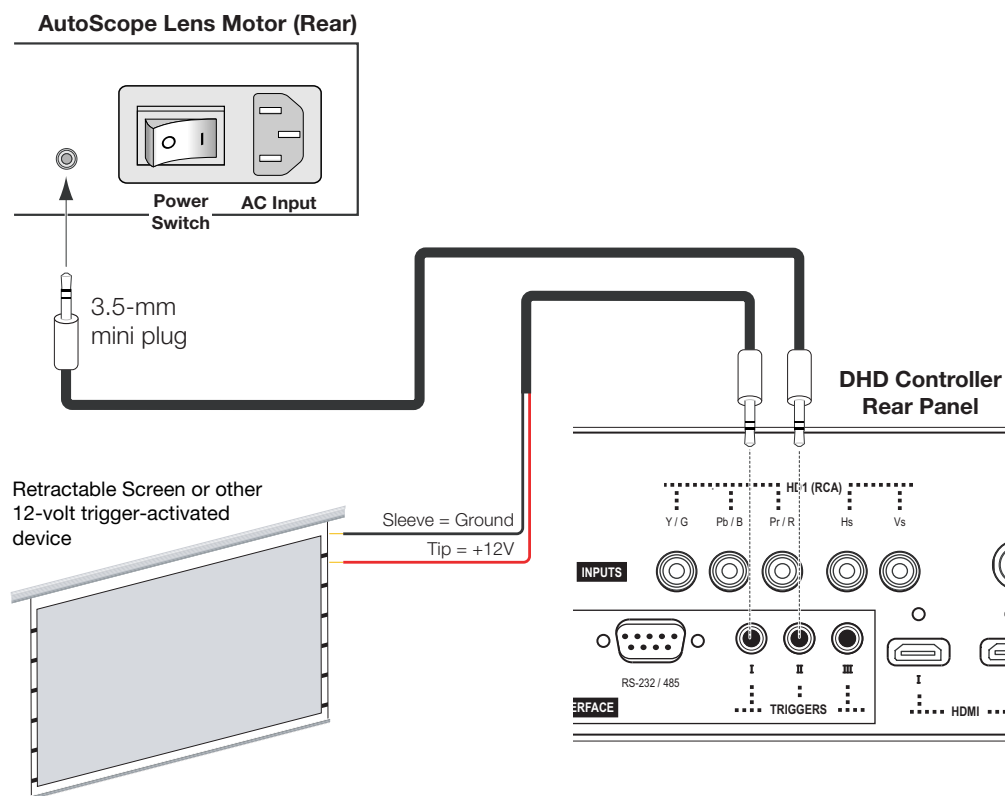

Figure 3-17. 12-volt Trigger Output Connections
If your VX-33d is equipped with a CineWide with AutoScope system, connect the AutoScope lens motor to a 12-volt trigger output on the DHD Controller; see Figure 3-17.
3. If this is an AutoScope-equipped projector, turn on the main power switch at the rear of the AutoScope lens motor. The lens motor power switch is located next to the AC input (see Figure 3-17).